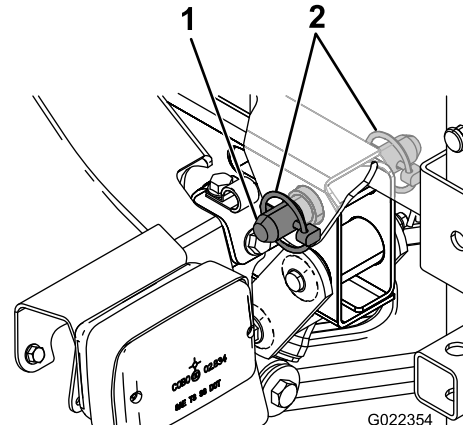

Figure 10
5. Line up the holes in the pivot lugs at the rear of the tank skid assembly with the holes in the bed pivot tube at the end of the vehicle frame (Figure 10).
6. Install a tapered clevis pin and 2 lynch pins to the pivot lug to secure the tank assembly to the frame (Figure 10).